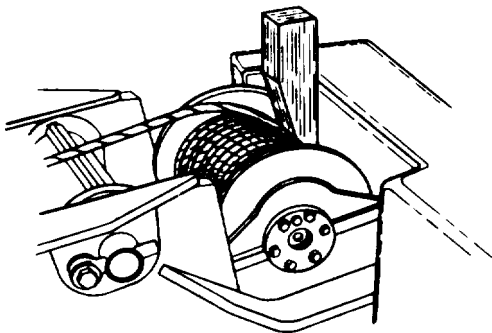
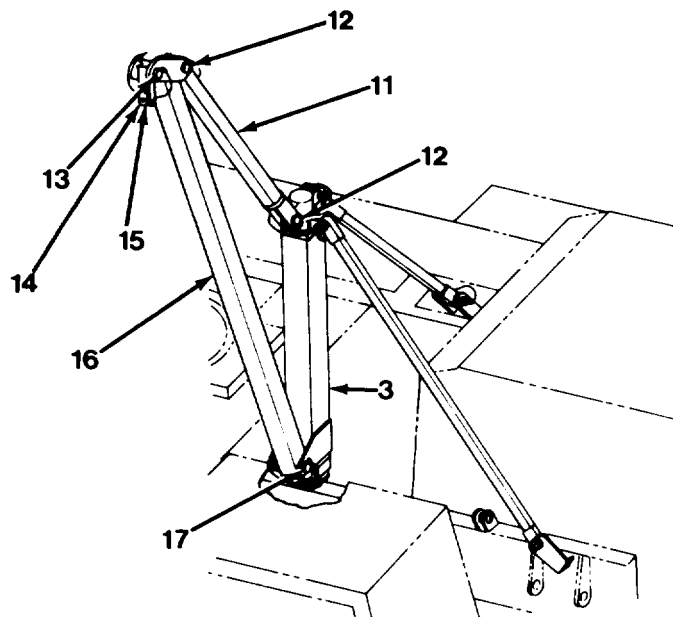

Figure 5-6. Wedge Block in Winch Drum
Figure 5-31 Assembling the Mast
3. Block cable at winch drum with a wooden wedge (Figure 5-6) to prevent cable from unwinding.
4. Dismantle and restow lift arm (16) as follows:
- a. Remove hoist line from lift arm (16) by removing pin (12) connecting adjustable truss rod (11) to top of mast (3, Figure 5-31).